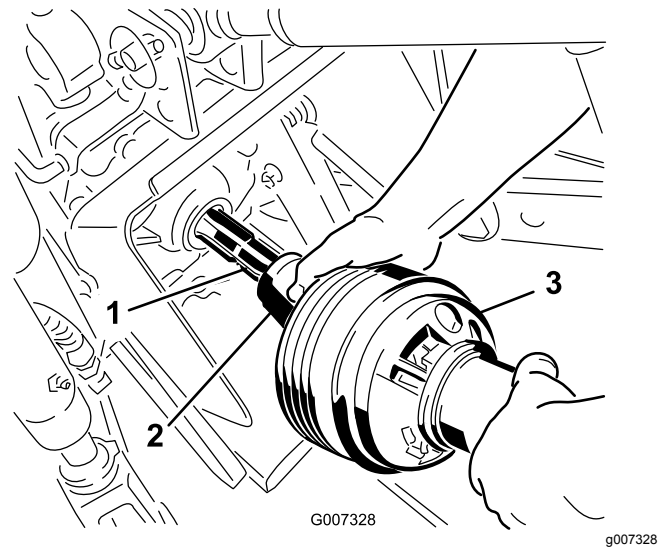

Figure 24
3. Connect the PTO shaft to the traction unit PTO shaft (Figure 24).